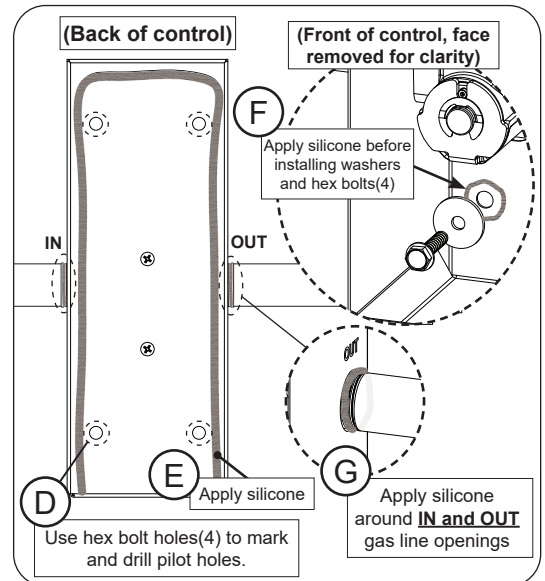

Fig. 4-2 Mount control
5. Mark four (4) pilot holes with the inner component hex bolt holes as a guide and drill into wall. See Fig. 4-2, D.
6. Before mounting onto wall, apply weather-proofing silicone (not supplied) to the back of the control and the interior of the control, as shown in Fig. 4-2, E and F.
8. Apply weather-proofing silicone (not supplied) to the inlet and outlet gas line openings as shown in Fig. 4-2, G.